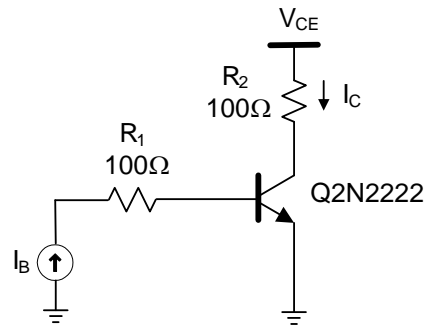

Fig. 5. BJT transistor circuit 3
6. Construct the circuit in Fig. 5 in PSpice. Place a current marker on the collector of the Q2N2222. A second DC Sweep is required to generate the output characteristics. First select DC Sweep and set it up for sweeping V_{CE} from 0 V to 6 V with linear increments of 5 mV. Then select Nested Sweep and set that up
- Set V_{CE} shown in Fig. 5 to 5 V and do a linear sweep starting at 0 and ending at 30 μA with a linear increment of 5 μA . Find the DC and AC current gain β_{DC} and β_{ac} of the transistor. Remember, β_{DC} and β_{ac} are defined by (3) and (4), respectively.